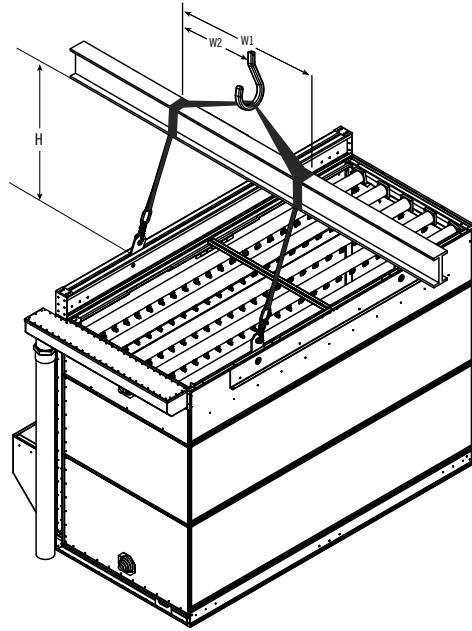

Figure 6a. Coil Section Lift
9. Apply foam tape (BAC part #270567) to the coil section flanges that mate with the plenum section (**Figure 6a**).